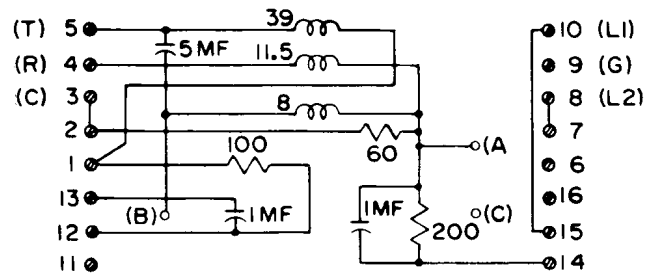

Figure 2. Schematic Diagram of Transmission Unit for Manually Adjusted Circuit.
2.24 The transmission network in NA-852 sets (Figure 2) contains no non-linear elements. It consists of an induction coil, three resistors, and a three-section capacitor used in a circuit of lower